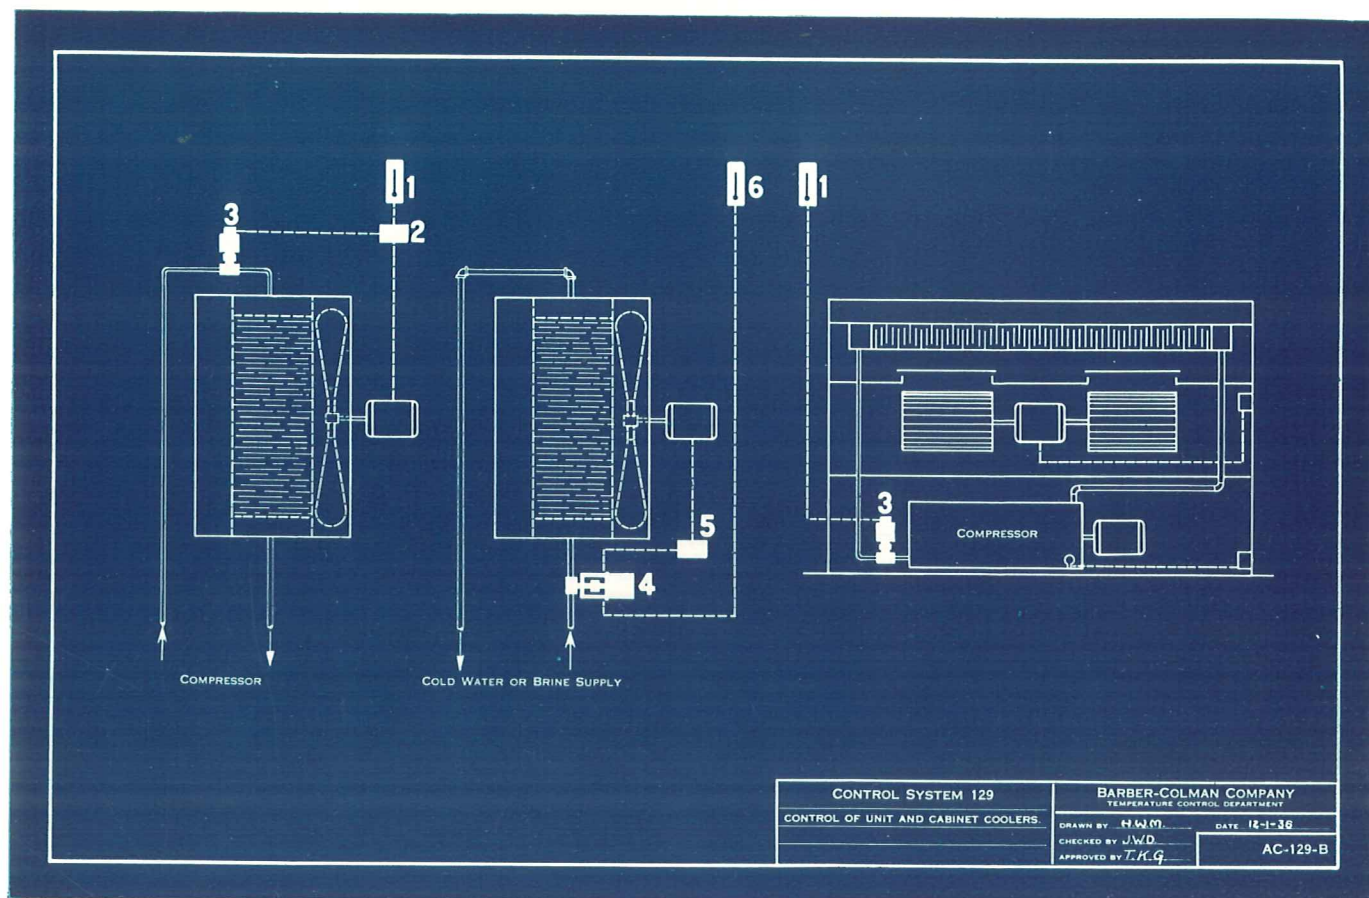

Fig. 1, Direct Expansion.
Direct Expansion, Fig. 1. Thermostat (1) controls Relay (2) which in turn controls the operation of the fan motor and Solenoid Valve (3). On call for cooling, fan starts and Solenoid Valve opens, admitting the refrigerant to the coils. On call for less cooling, fan stops, and Solenoid Valve closes cutting off supply of refrigerant to coils.
A number of cooling units may be operated from a single compressor, remotely installed, by controlling as described in Fig. 1.